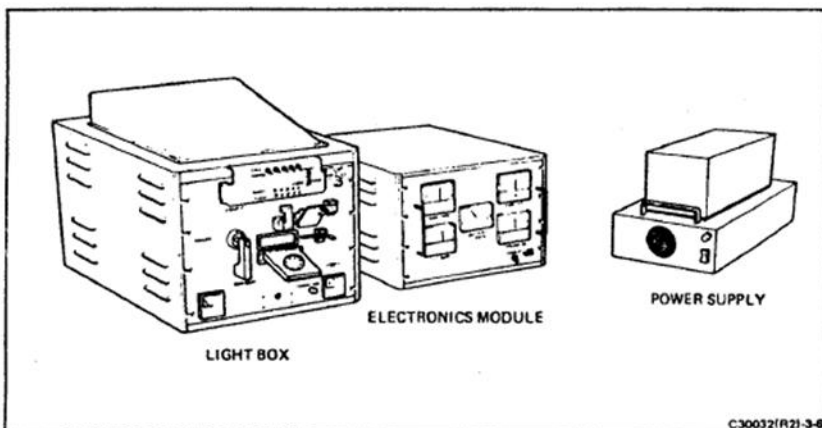

FIGURE 3-6 COMPREHENSIVE TESTER
3. Comprehensive Testers (Figure 3-6 and 3-7)
There are two models of Comprehensive Testers available for semi-automatic testing of the SX-70 camera. The earlier model, Comprehensive Tester Model A, consists of three interrelated units; the lightbox, the electronics module, and the power supply (Figure 3-6). Comprehensive Tester Model